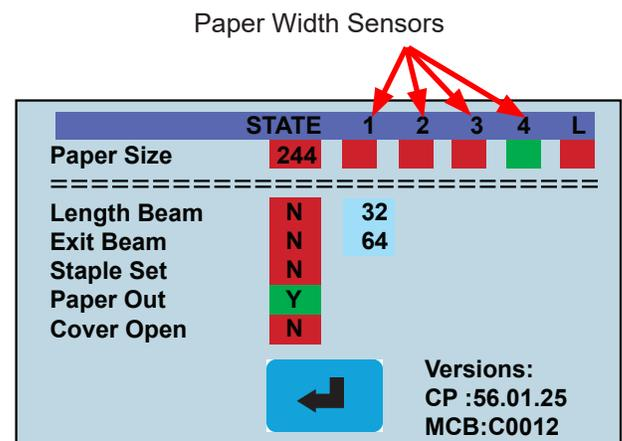

Fig. 58
1. From the Service mode menu select the Sensor Test Icon “  ”. The Sensor Test Screen will be displayed (Fig. 58).